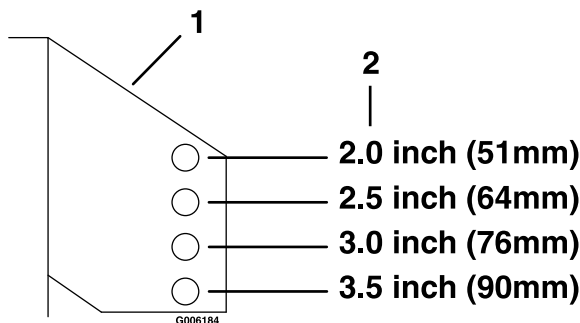

Figure 18
6. Place the rollers in one of the positions shown (Figure 18). Rollers will maintain 3/4 inch (19 mm) clearance to the ground to minimize gouging and roller wear or damage.